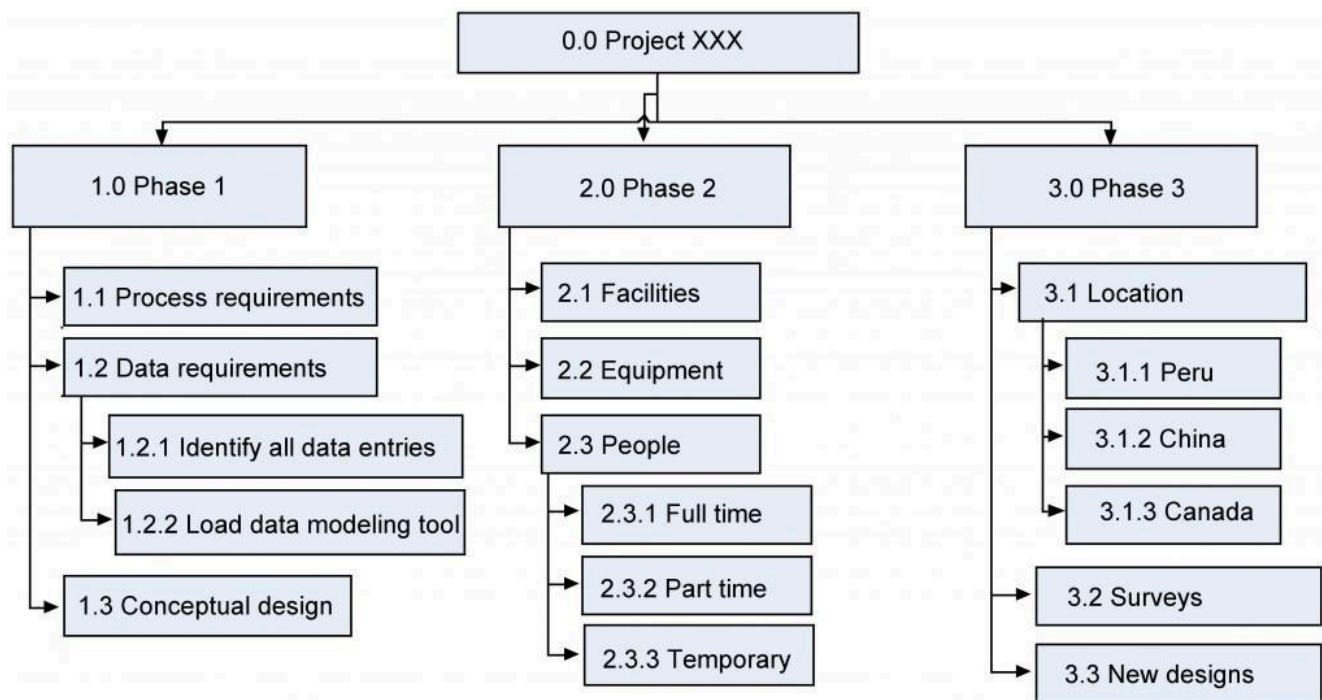

Figure 8.5: WBS Project Phases
- Figure 8.5 WBS Project Phases © Barron & Barron Project Management for Scientists and Engineers is licensed under a CC BY \(Attribution\) license